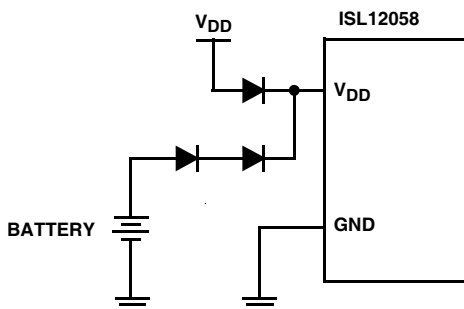

FIGURE 3. PROTECTION CIRCUIT WITH THREE DIODES
For example, the ISL12058 does not offer a battery switchover feature but an application requires it. The battery backup function can be added simply by connecting both main supply and backup battery to the V_{DD} pin. To have proper protection, a diode is placed in series with the main supply and two diodes are placed in series with the battery. The diode in series with the main supply is to block current from the battery into the main supply. Two diodes in series with the battery are to prevent reverse charging. The second diode is used to provide protection in the event that one should fail. Figure 3 shows the actual circuit with three diodes protection.
- B) Intersil devices that require two diode in series (Figure 3) for UL requirements: ISL12057, ISL12058, ISL12059.